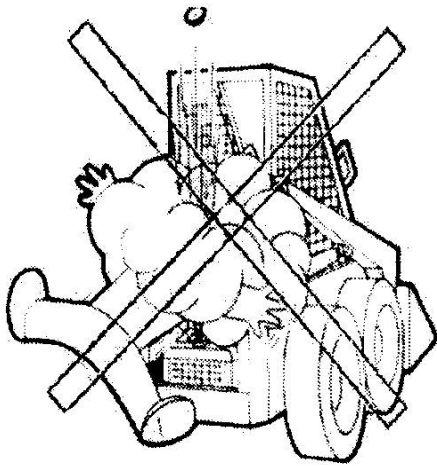

Fig 49 Wrong
- ⚠ **WARNING:** When the engine becomes hot the cooling system will create the some pressure, so shut off the engine to let the cooling system cool before open the radiator cover (Fig 49), open the radiator cover after the cooling water become normal.